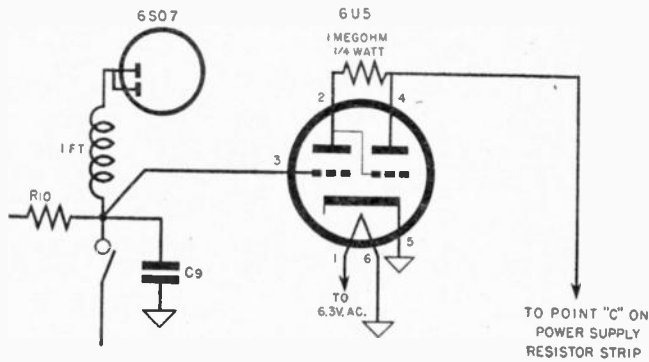

Fig. 2-42. Electron-ray tuning indicator.
j) *Electron-ray Tuning Indicator.* See Figure 2-42. A type 6U5/6G5 tube is used as an indicator. It will not only show when the set is correctly tuned to the desired signal but, since it is in effect a vacuum tube voltmeter, it will also give a rough indication of the relative intensity of station signals. Once you have become accustomed to using it, you will be able to detect quickly any change in the sensitivity of the set due to a faulty tube or other causes. Furthermore, it may also be used as an indicator when aligning the set. Additional parts needed: 6U5G tube, 6 pin socket, 1-megohm 1/4-watt carbon resistor, connecting wires. All of the parts may be pur-